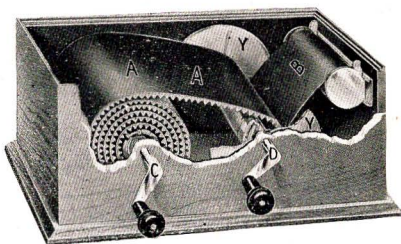

Fig. 1.
5. Insert film cartridge in spool carrier and close up the movable arm tight against end of spool. Have the black paper ("B" in Fig. 1) lead from the top.